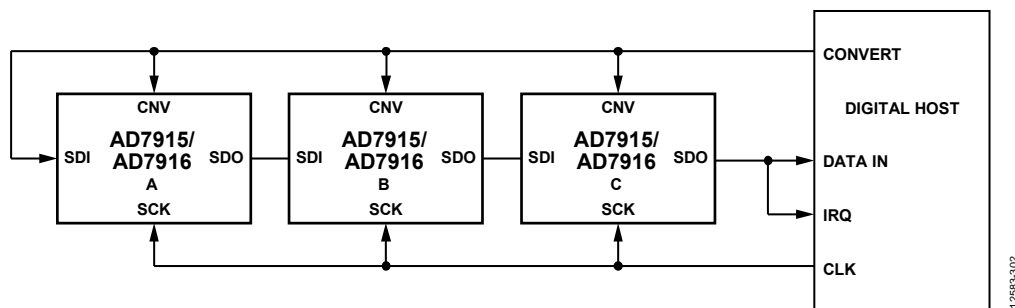
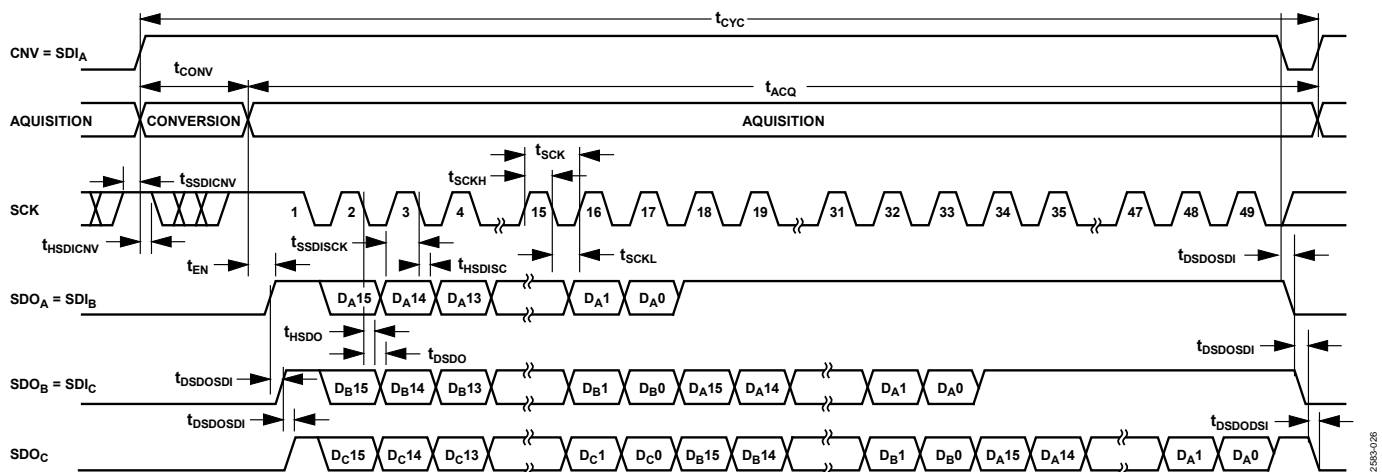

Figure 45. Chain Mode with Busy Indicator Connection Diagram
Figure 46. Chain Mode with Busy Indicator Serial Interface Timing
- in chain mode if SCK is high during the CNV rising edge (see Figure 46).
A connection diagram example using three AD7915/AD7916 devices is shown in Figure 45, and the corresponding timing is given in Figure 46.
completed their conversions, the SDO pin of the ADC closest to the digital host (see the AD7915/AD7916 ADC labeled C in Figure 45) is driven high. This transition on SDO can be used as a busy indicator to trigger the data readback controlled by the digital host. The AD7915/AD7916 then enter the acquisition phase and powers down. The data bits stored in the internal shift register are clocked out, MSB first, by subsequent SCK falling edges. For each ADC, SDI feeds the input of the internal shift register and is clocked by the SCK falling edge. Each ADC in the chain outputs its data MSB first, and $16 \times N + 1$ clocks are required to readback the N ADCs. Although the rising edge can be used to capture the data, a digital host using the SCK falling edge allows a faster reading rate and, consequently, more AD7915/AD7916 devices in the chain, provided that the digital host has an acceptable hold time.